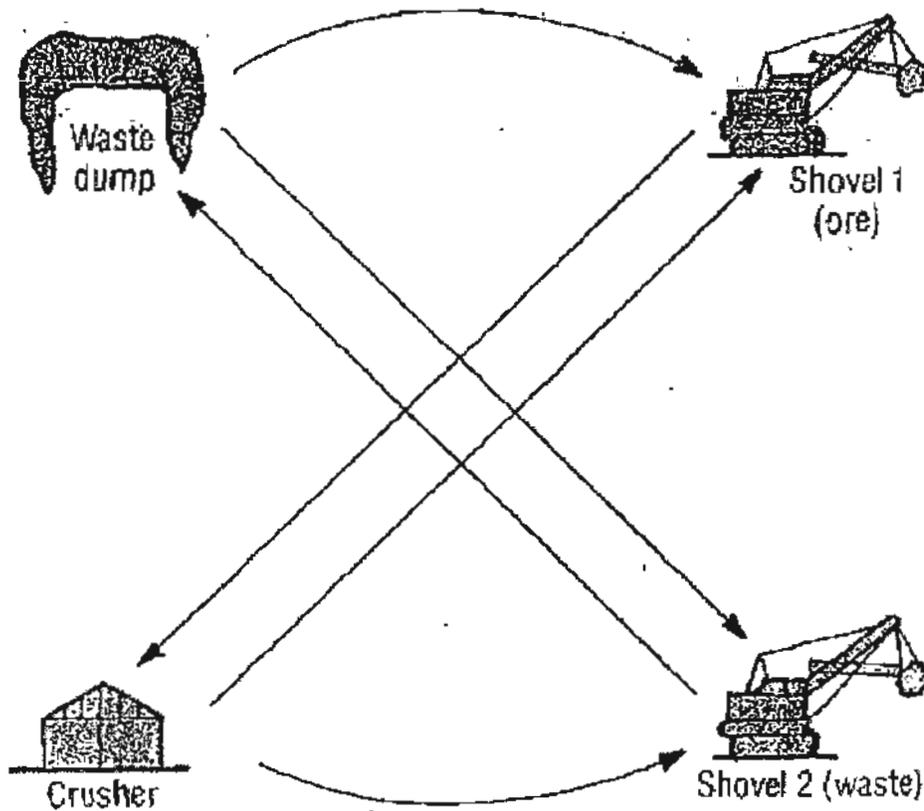

Figure 4 All Possible Truck Routings
Figure 4 shows a sketch of all possible routings with two shovels operating. One shovel is digging waste which must be trucked to the waste dump and the other shovel is loading ore which must be trucked to the crusher.
4.2 Referencing Figure 4 showing all possible routings, draw two neat diagrams showing the respective “closed out” and “dispatched” routes. (3 marks)
4.3 What are the theoretical numbers of trucks required for “closed out” and “dispatched” operation shown in Figure 4 to obtain maximum production. (7 marks)